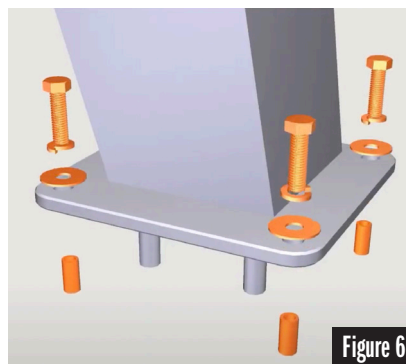

Figure 6
- Remove the hardware from the flat end of the Extension Arm (Part E) & discard tubes. See Figure 6.